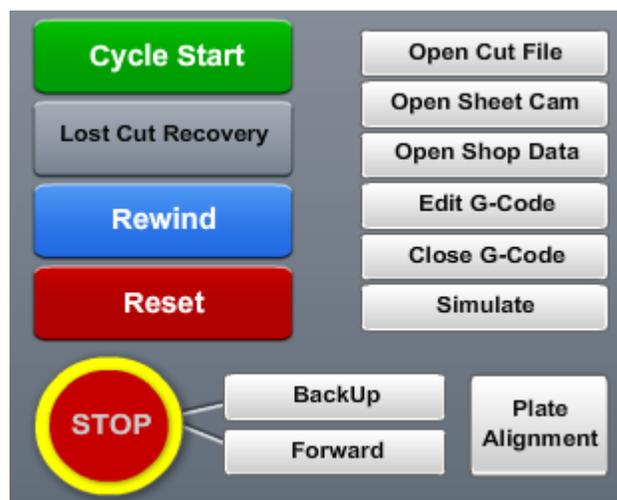

Figure 14 - G-Code File Controls
The **Open Cut File** button opens a file menu window for finding a desired G-Code file. See Figure 14.
This buttons opens the current G-Code file in Notepad window to allow manual editing. See Figure 14.
This buttons unloads the currently loaded G-Code file from Mach3. See Figure 14.
The purpose of plate alignment is to compensate for the material not being exactly straight in relation to the cutter axis. See Figure 14.
The simulate function allows the operator to run the machine through a program without activating any of the outputs or turning on the cutter. This allows the operator to trouble shoot or test the program and get an idea of what it will look like without cutting anything. To switch states simply press the button. The green LED below the button will be on if the simulate function is on. See Figure 14.
This button will run the loaded G-Code file, from the beginning of the file or if the **Stop** button was pressed from the last line that was run. The start point can be adjusted using the **Backup** and **Forward** buttons. See Figure 14.
This buttons rewinds the loaded G-Code file to the beginning. See Figure 14.
1. To start Lost Cut Recovery press the **Lost Cut Recovery** button (See Figure 14).
2. Move the machine to the EXACT X and Y position where the machine should begin cutting using the **Forward** and **Backup** buttons. The **Forward** and **Backup** buttons will move the machine to the final commanded position of a G-Code line. See Figure 14.
3. Press the **Lost Cut Recovery** button. See Figure 14.
1. Press the **Lost Cut Recovery** button. See Figure 14.